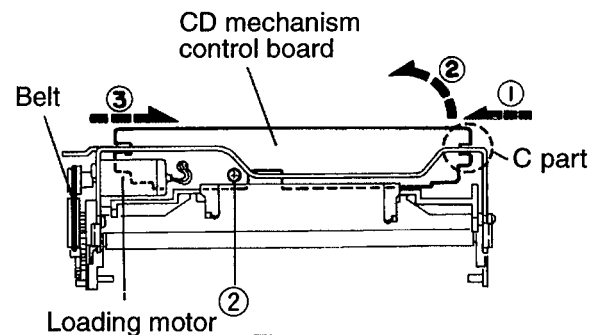

Fig.11
- 4.Remove the one screw (2) retaining the CD mechanism control P.C.board(See Fig. 11).
5. After disengaging the engagement between the notch section (c) and frame,remove the CD mechanism Control P.C .board successively from (1) through to (3) in the arrow direction as shown in Fig. 11.